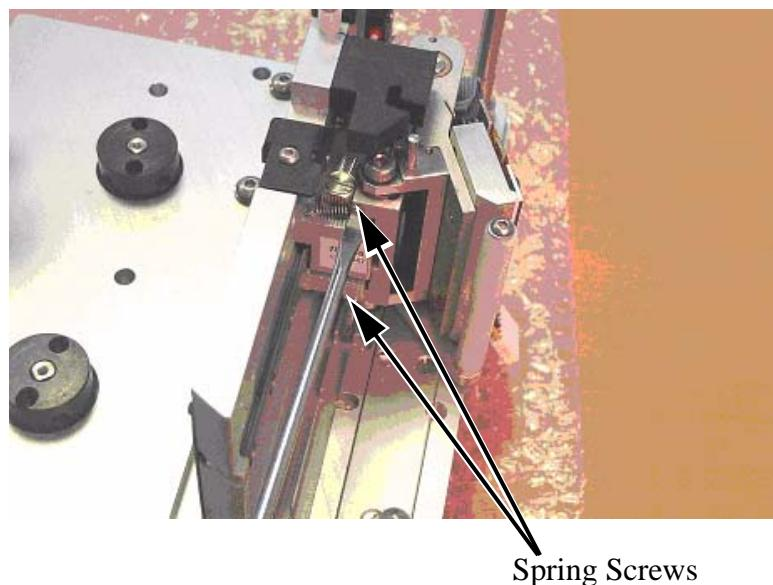

Figure 5-68: Spring Screws Removal
- 2 Remove the two small spring screws shown in Figure 5-68.